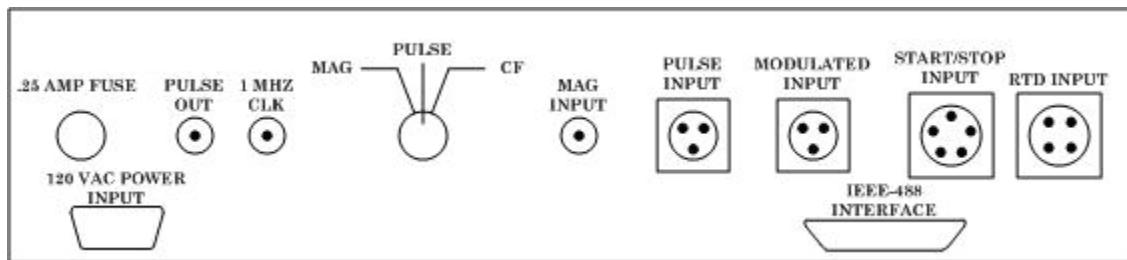

Figure 1. Back panel.
- a. Connect 115 V ac power source to 120 VAC POWER INPUT (fig. 1).
- b. Connect the resistance temperature device (RTD) to the RTD INPUT connector (fig. 1).
- (1) Attach the output from a CF pickoff (mounted on a flow meter) to the MODULATED INPUT (fig. 1) on the rear panel using the 150 foot cable.
- (2) Set the back panel selector to the CF position (fig. 1).
(3) Connect oscilloscope to the flow meter interface board with the ground attached to J4.2 and the signal input to J4.1. Set oscilloscope to measure 10 V p-p at approximately 50 kHz.
(4) Oscilloscope will indicate between 10.0 and 11.0 V p-p and a frequency of approximately 50 kHz; if not, perform **b** below.
(5) Disconnect oscilloscope from TI.
b. Adjustments. Adjust VR3 for a 10.5 V p-p indication on oscilloscope (R).
(1) Connect frequency counter to 1 MHZ CLK connector (fig. 1) on rear panel. Frequency counter will indicate 1 MHz \pm 50 ppm; if not, perform **b** below.
(2) Disconnect frequency counter from TI.